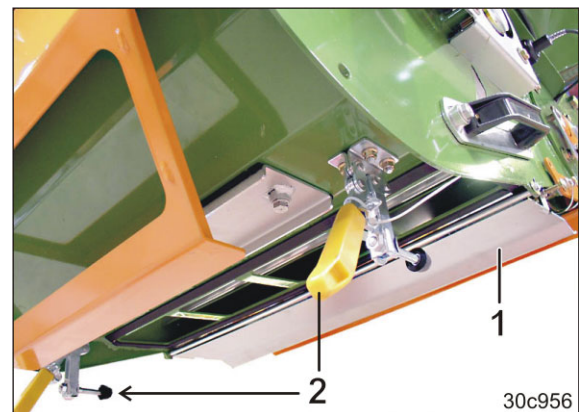

Fig. 284
2. Open the bottom flap (Fig. 284/1).
The bottom flap is secured with quick-release clamps (Fig. 284/2).